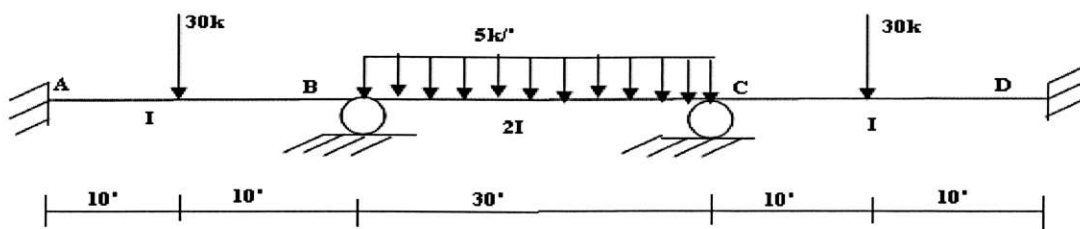

Figure 9
9. Analyze the beam of **Figure 9** using **Moment Distribution Method** and draw shear force and bending moment diagram.